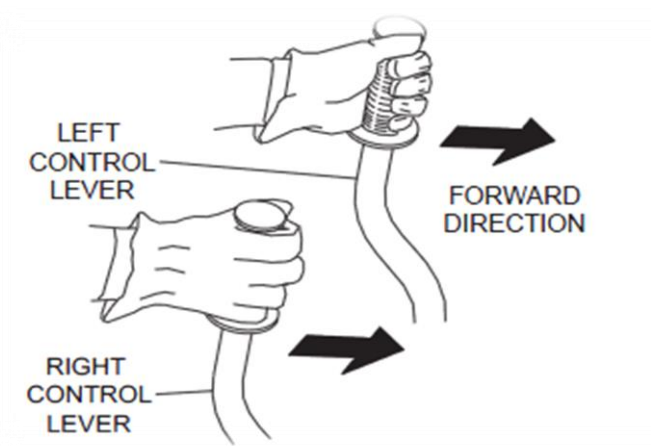

Figure 7.2
Two control levers located in the front of the operator's seat provide directional control for the trowel (fig. 7.2). Table 7.2 illustrates the various directional positions of the control levers and their effect on the ride-on trowel.
- Push both the left and the right control levers forward (see fig. 7.2).